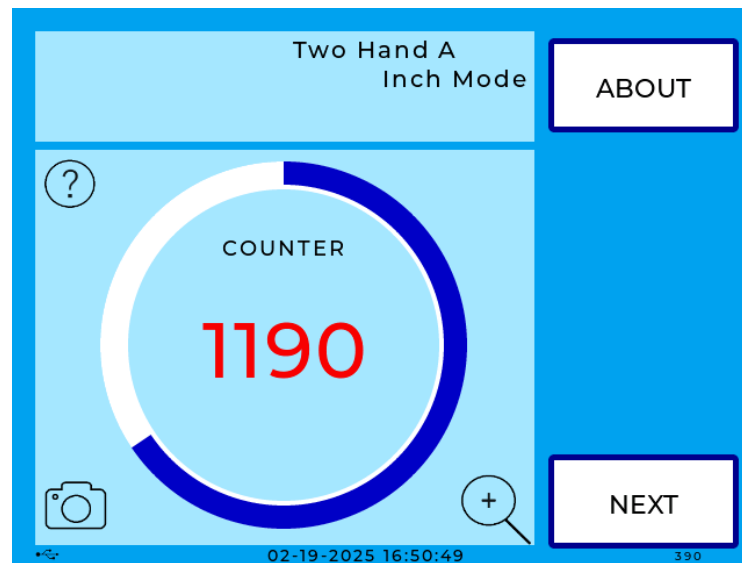

Figure 35. Counter Screen
2. Press NEXT repeatedly until the Counter screen appears, showing the counter value, Figure 35.